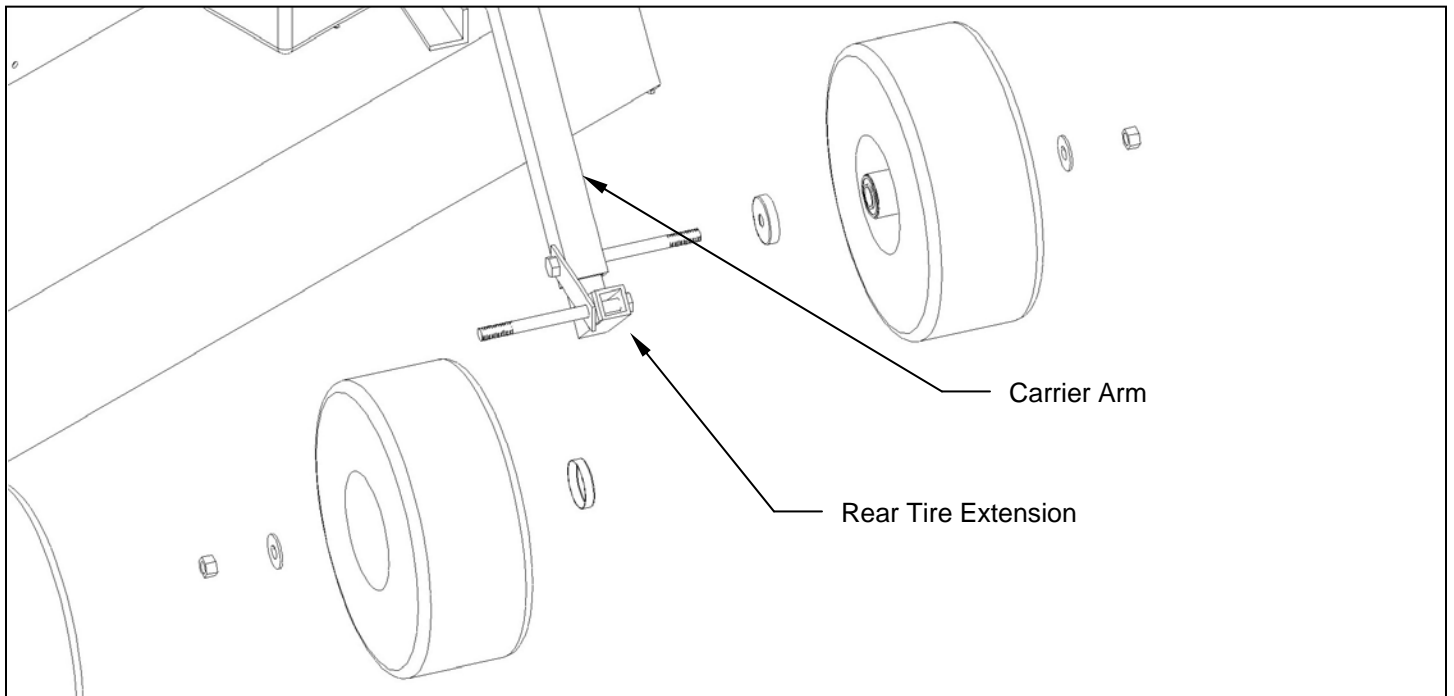

Figure 1. Right Rear Tire Extension
A. INSTALL REAR TIRE EXTENSION (Refer to figure 1)
2. Insert the rear tire extension into the lower rear opening of the right carrier arm. Align the hole on the rear tire extension with the hole on the carrier arm. Place a 5/8" x 7.5" bolt through the aligned holes in the correct orientation shown in figure 1. Place a 5/8" x 7.5" bolt in the other available rear tire extension hole using the correct orientation shown in figure 1.